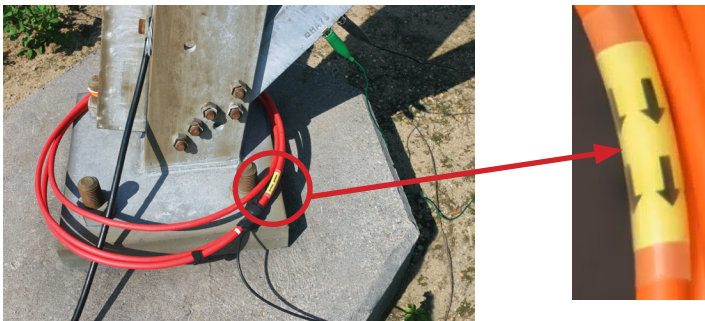

Figure 2
1. If possible, position the H and S electrodes 90° to the High Voltage (HV) line, and place one to the left and the other to the right with respect to the HV transmission line. If this is not possible, stay at least 30° off parallel to the HV line. The minimum distance should be 150 – 300 ft (50-100m). Never place an electrode within the minimum distance from the HV line and/or parallel to the HV line.
2. Connect the H electrode using the red (H) lead and the S electrode using the blue (S) lead (see Figure 2).